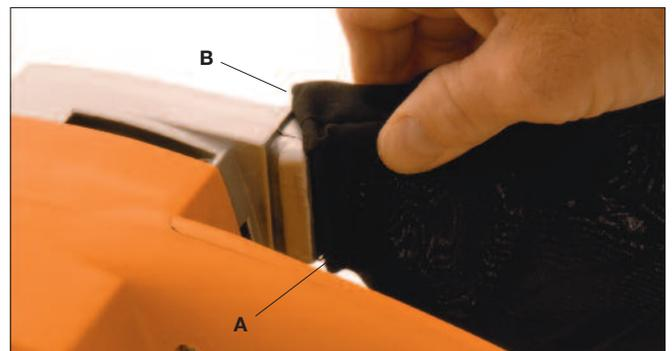

Figure 5
Warning! Before installing dust bag, unplug the belt sander from its source of power. When using your belt sander, dust and grit are produced, therefore it is important to use a dust bag (A) Fig. 5. To connect the dust bag to the dust collection port on the belt sander, place the right edge collection port as shown on Fig. 5. Press the dust bag spring at the top of the dust bag (B) together, this will widen opening. Slide the dust bag over dust collection port and release.